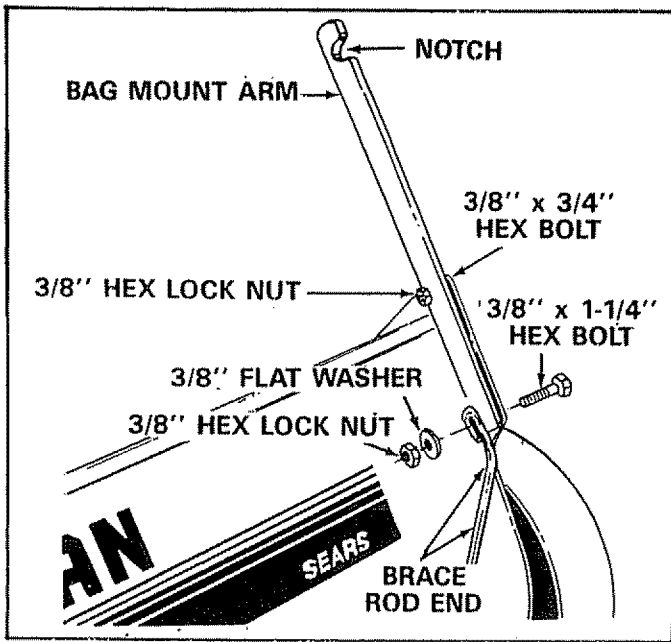

FIGURE 6
5. Assemble the two bag mount arms and top ends of brace rod. See figure 6. Assemble the top hole in arms to sweeper housing using two 3/8" x 3/4" hex bolts and 3/8" lock nuts. The notched side of mount arms face upward and mount on the inside of housing. See figure 6. Assemble the brace rod under hitch bar and large washer in back hole of hitch bracket, then assemble brace rod ends to bottom holes in arms and sweeper housing, using two 3/8" x 1-1/4" bolts, 3/8" flat washers and 3/8" hex lock nuts. See figures 5 and 6. **Do not tighten as this time.**